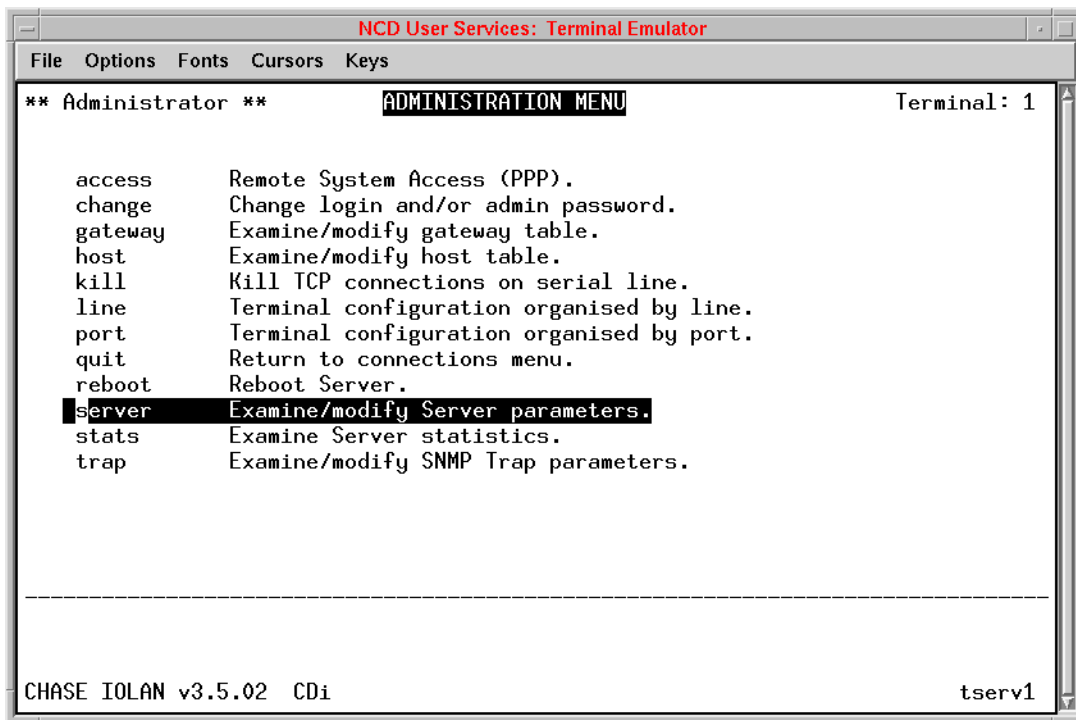

Figure 2-12: Administration Menu
25. Select **server: Examine/modify Server parameters** from the Administration menu, and press **<Return>** (see Figure 2-12).